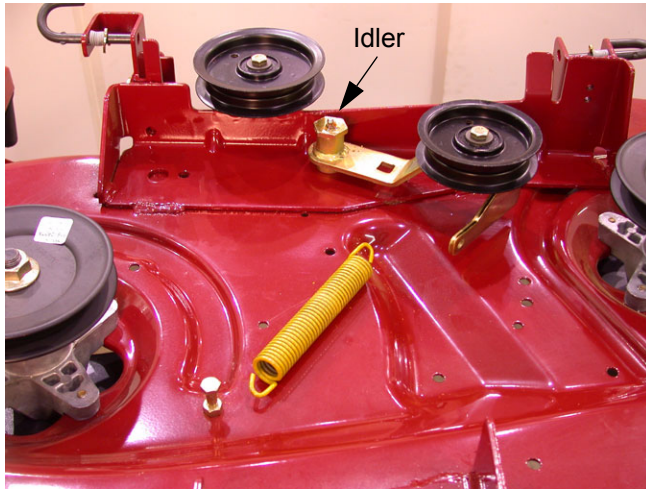

Figure 5.2
- 5.2. Remove the shoulder screw and hex insert lock nut securing the idler to the deck housing. See Figure 5.2.